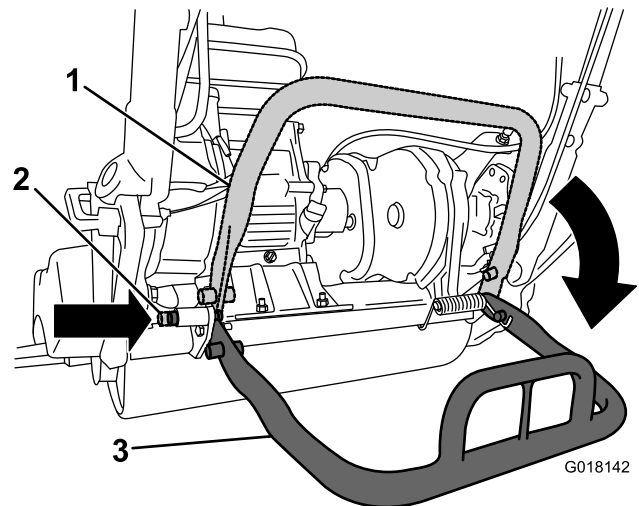

Figure 5
2. Lower the kick stand and push in the locking pin to lock the kick stand in the service position (Figure 5). Allow the machine to rest on the locking pin.